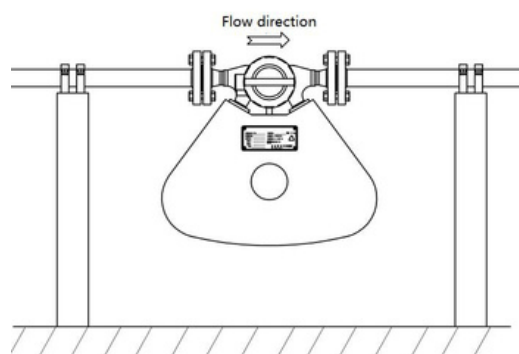
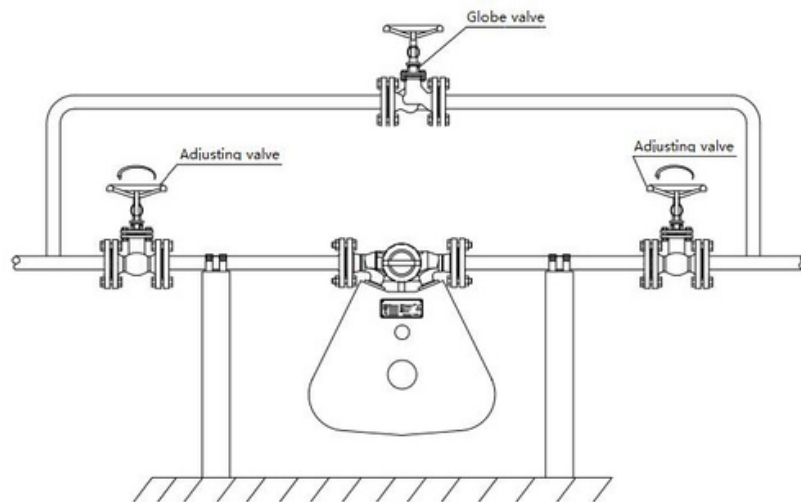

Figure 8.3
Figure 8.9
(1) When the mass flowmeter measures liquid, it is recommended to install the housing downward. As shown in fig. 8.3, gas is prevented from accumulating in the sensor vibrating tube.
- (1) Installation location should avoid electromagnetic interference. The installation positions of sensors and transmitters and the laying of cables shall be as far away as possible from equipment that is easy to generate strong electromagnetic fields, such as high-power motors, transformer facilities, frequency conversion equipment, etc.
- (2) Process piping should be centered, on both sides of the flange should be parallel. It is strictly prohibited to straighten the upstream and downstream process pipelines with the sensor, otherwise the measurement will be affected or even the sensor will be damaged. In addition, the process pipes on both sides should be provided with stable supports near the flange (about 2 ~ 10 times the pipe diameter) (as shown in figs. 8.3, 8.4 and 8.5).
- (3) Sensor inlet side cannot install butterfly valve.
- (4) On the upstream and downstream pipelines of the sensor, it is recommended to install stop valve and bypass to facilitate zero calibration, routine maintenance and ensure that the sensor can be in a full pipe state when not working. Use the regulating valve downstream of the sensor for flow control (as shown in Figure 8.9).